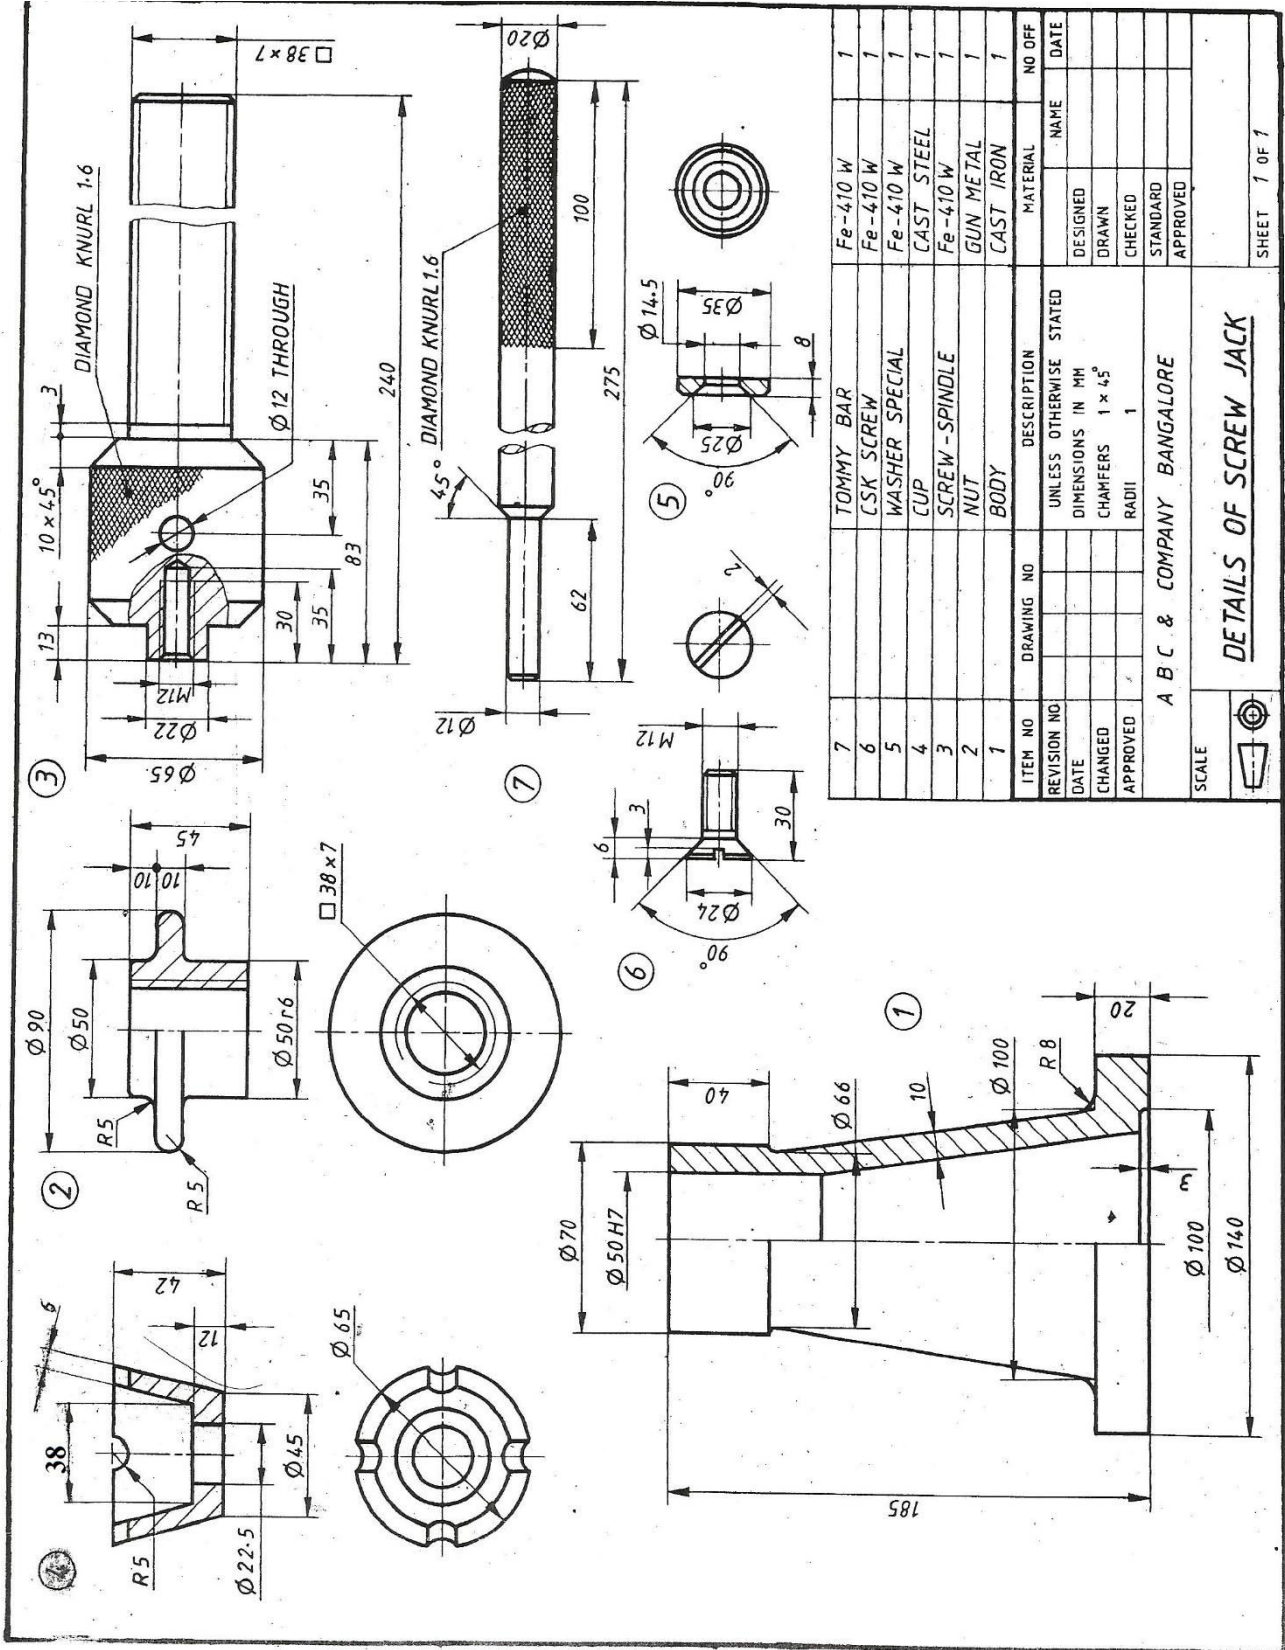

Figure 1: Details of Screw Jack
3. Figure 1 shows the details of a “**Screw Jack**”. Assemble the parts show the following views.